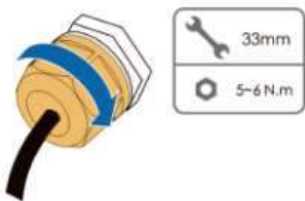

Fig. 4-48 Tighten the swivel nut clockwise
- 5) Pull the cable gently to make sure it is secured, tighten the swivel nut clockwise (Fig. 4-48).